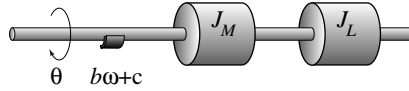

Figure 4.5. : Motor Mechanical Diagram: open electrical circuit.
- (d) The mechanical time constant, and hence the total moment of inertia, J , can be determined by opening the motor circuit ($i_a = 0$) while the motor is rotating and observing the resulting decay in speed. The situation is shown in Figure 4.5.